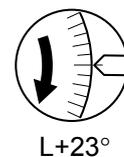
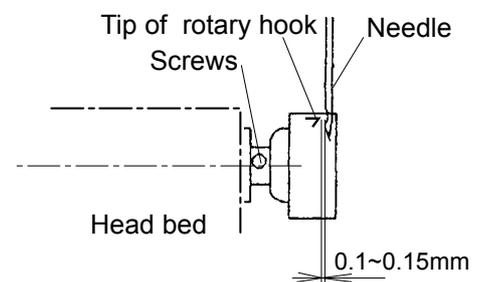

Fig. 8
Fig. 9
7. Turn main shaft slightly in direction shown by the arrow mark. Then set the angle of adjustment disc as shown in Fig. 8. Note the space or timing between needle and tip of rotary hook as shown Fig. 9, 10. If the space is too open or too close, loosen 3 screws of shuttle to adjust. Make sure to tighten 3 screws after adjusted the space. (The timing is set exactly at the factory. However, in some cases timing is inadvertently thrown off from handling during shipment.)